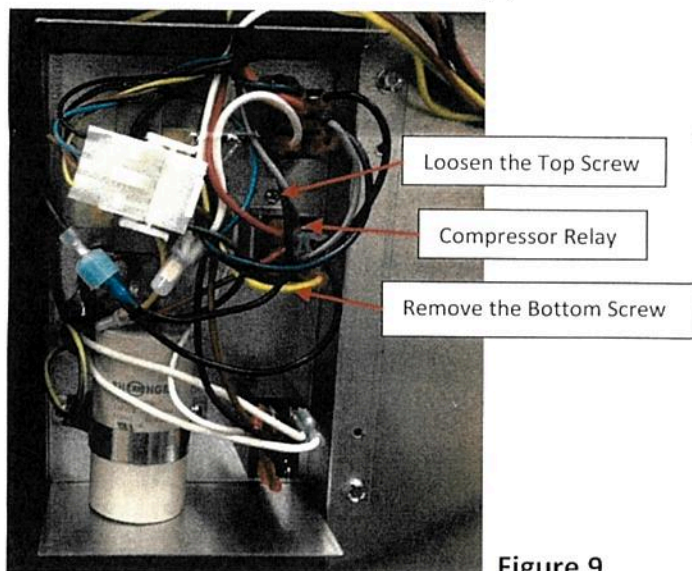

Figure 9
Step 9 – Remove the compressor relay (the bottom one) by removing the bottom screw and loosening the top screw. You need the top screw for the new relay (Figure 9). **Do not remove the wires from the relay yet.**